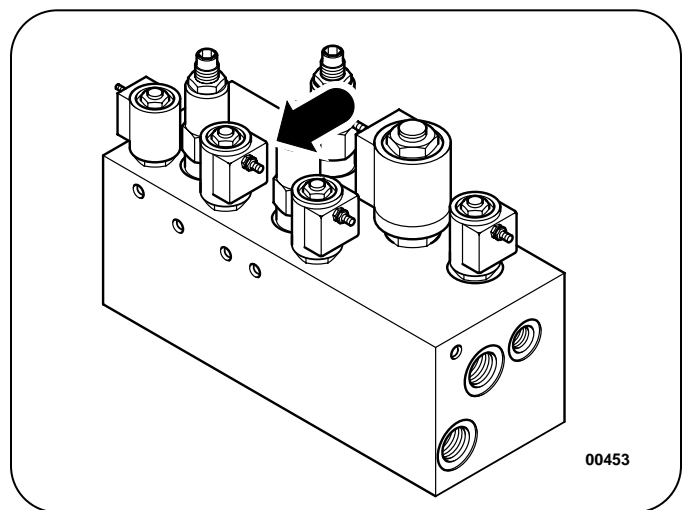

Figure 2: Parking Brake Solenoid Cartridge
4. Locate the parking brake solenoid cartridge in port "SV3" of the mono-block valve. See Figure 2. Use the 11/32" wrench to disconnect the wire lead to the solenoid coil to prevent the parking brake from releasing.